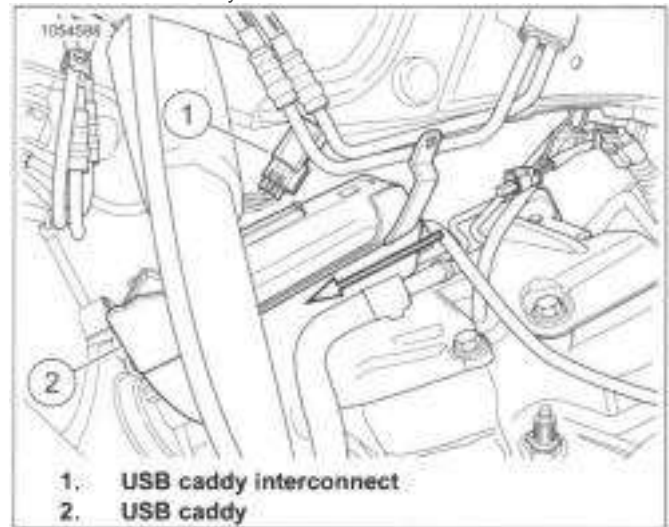

Figure 7-155. USB Caddy Interconnect
4. See Figure 7-155. Slide USB caddy (2) forward and disconnect USB caddy interconnect (1).
1. See Figure 7-155. Slide USB caddy (2) from front of engine and connect USB caddy interconnect (1).